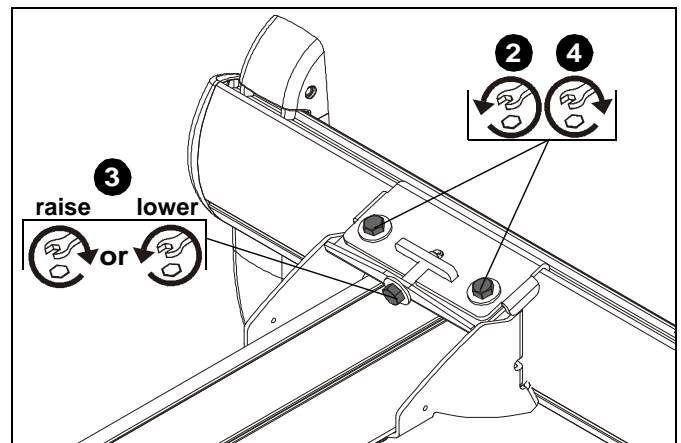

Figure 64
2. Loosen two bolts on either side of pitch adjustment screw. (See Figure 64)
3. Adjust pitch adjustment screw until mount is at desired pitch level. Turn clockwise to raise mounting level or turn counterclockwise to lower mounting level. (See Figure 64)
4. Tighten two bolts on either side of pitch adjustment screw. (See Figure 64)